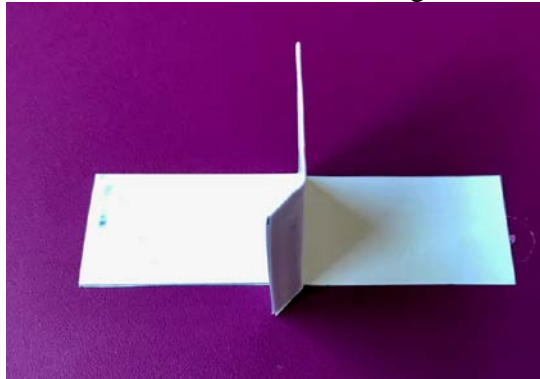

Figure 8. The rudder can bend from side to side
9. Cut 0.33 inch (0.8 cm) off the back of the two outer panels. The piece that is sticking out from the vertical stabilizer will be the rudder. See Figure 8.